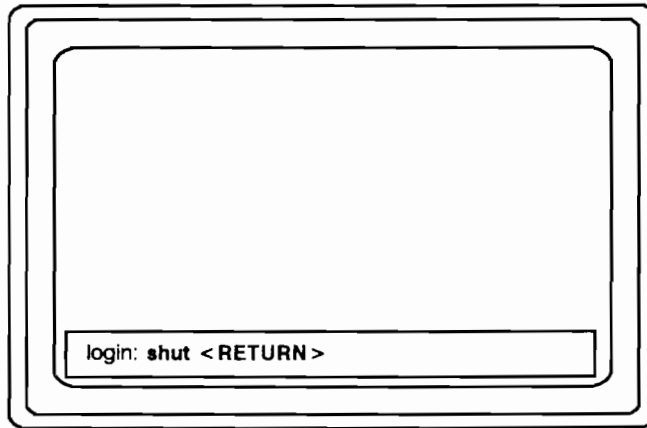

Figure 4-16. Shutting Down
2. To stop all processes, enter the `shut` command as shown in Figure 4-16.